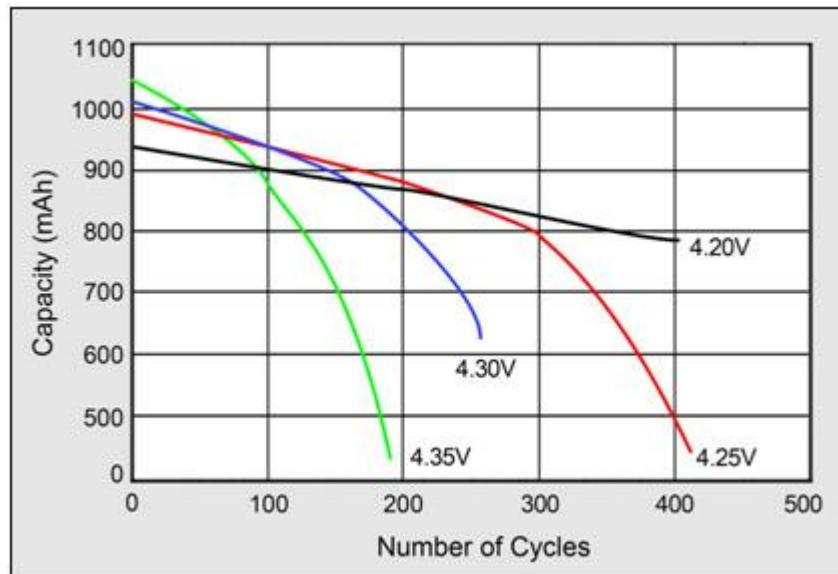

Figure 19: Effects on cycle life at elevated charge voltages. Higher charge voltages boost capacity but lowers cycle life and compromises safety.
- For safety reasons, many lithium-ions cannot exceed 4.20V/cell. (Some NMC are the exception.) While a higher voltage boosts capacity, exceeding the voltage shortens service life and compromises safety. Figure 19 demonstrates cycle count as a function of charge voltage. At 4.35V, the cycle count of a regular Li-ion is cut in half.